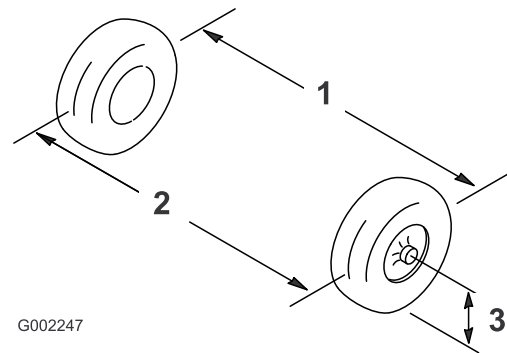

Figure 79
2. Measure the distance between both of the front tires at the axle height at both the front and rear of the front tires (Figure 79).